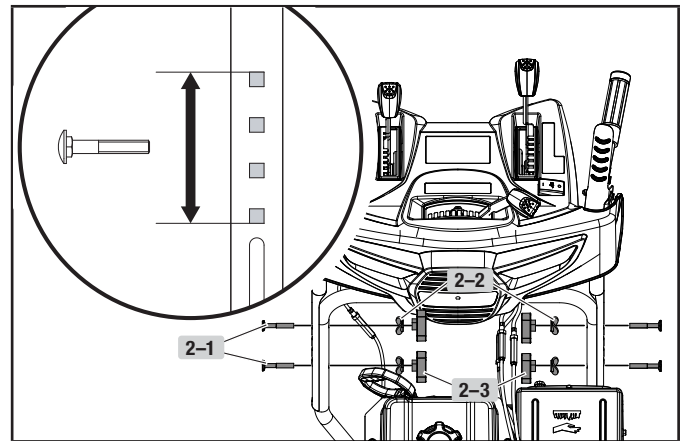

Figure 2
2. Connect the upper and lower handle with bolts (2-1), washers (2-2) and locking knobs (2-3) (Fig. 2). The top handle can adjust to 4 positions. You can come back later and adjust to a more comfortable height.